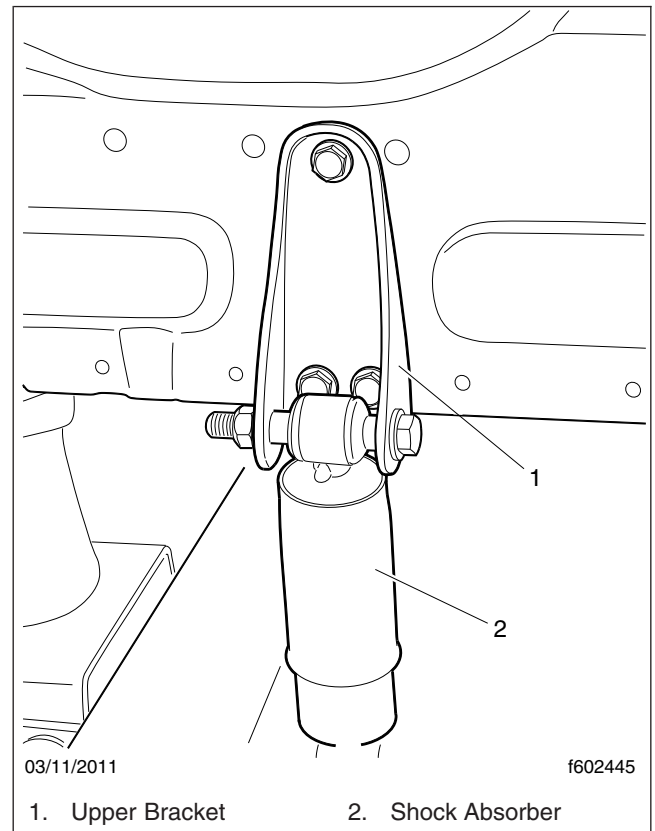

Fig. 1, Cab Shock Absorber and Upper Bracket
2. Check the torque on the upper bolt that attaches the shock absorber upper bracket to the cab. If loose, tighten the bolt 34 lbf·ft (46 N·m). See Fig. 1.